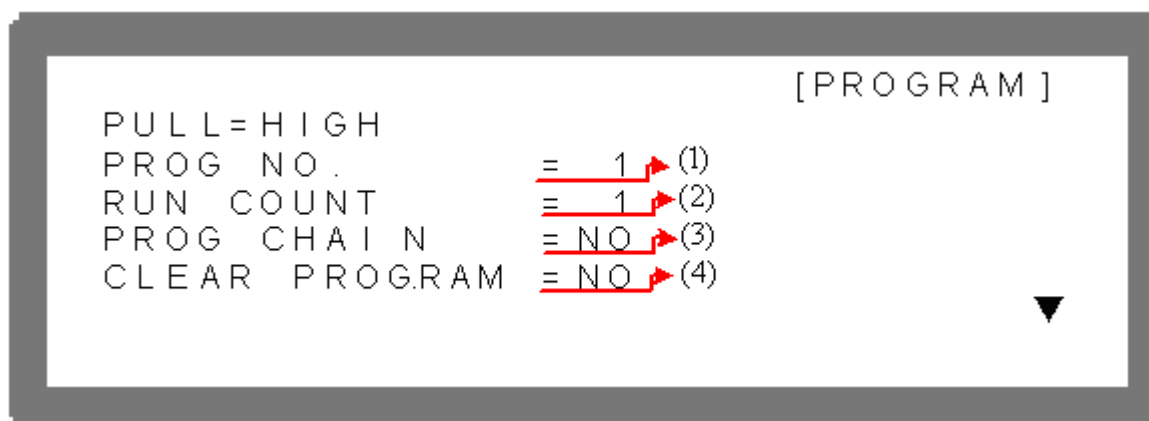
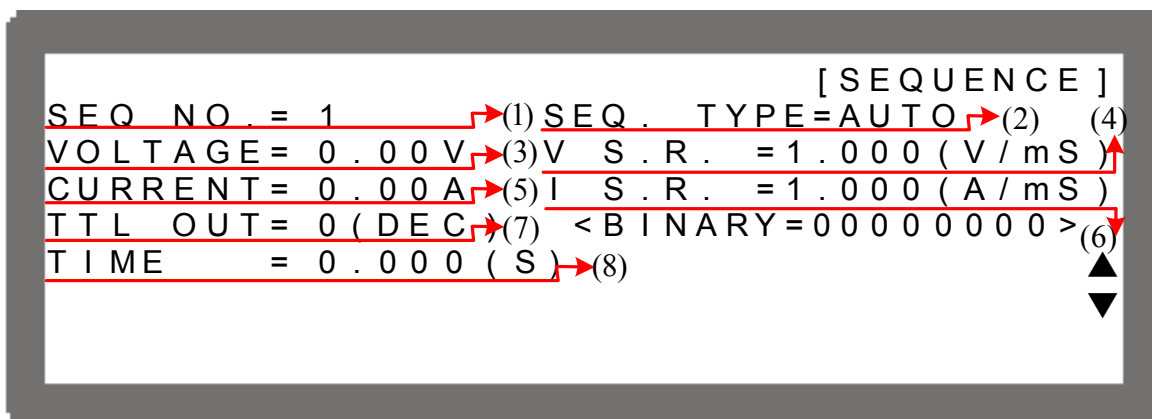

Figure 4-3
Figure 4-8
2. Use “”, “” keys to move the cursor to the column to be set as Figure 4-3 (1) shows.
1. Use “”, “” keys to move the cursor to the column to be set as Figure 4-3 (2) shows.
1. Use "←↑", "→↓" keys to move the cursor to the column to be set as Figure 4-3 (3) shows.
1. Use "←↑", "→↓" keys to move the cursor to the column to be set as Figure 4-3 (4) shows.
- a. In PROGRAM page (Figure 4-3), if the PROGRAM has no SEQUENCE when the cursor is at (4), press "→↓" can add a new SEQUENCE. The page will skip to Figure 4-8.
- b. When the cursor is at (8) in Figure 4-8 as the SEQUENCE of a PROGRAM, press "→↓" can add a new SEQUENCE.
3. Use "←↑", "→↓" keys to move the cursor to the column to be set as Figure 4-8 shows.
6. Press "EXIT" to return to Program PAGE (Figure 4-3).
1. Use “”, “” keys to move the cursor to the column to be set as Figure 4-8 (1) shows.
2. When the cursor is in Figure 4-8 (8), press “” can add a new SEQUENCE. Also it can use the numeric (~) keys or “Rotary”() knob to set the value and return to the previous set Sequence Number.
4. Press “” to return to Program PAGE (Figure 4-3).
1. Use “”, “” keys to move the cursor to the column to be set as Figure 4-8 (2) shows.
2. Use the numeric (~) keys or “Rotary”() knob to set the Sequence Type. There are four Sequence Types, which are: (1) AUTO, (2) MANUAL, (3) TRIGGER, (4) SKIP.
1. Use "←↑", "→↓" keys to move the cursor to the column to be set as Figure 4-8 (3) shows.
1. Use "", " " keys to move the cursor to the column to be set as Figure 4-8 (5) shows.